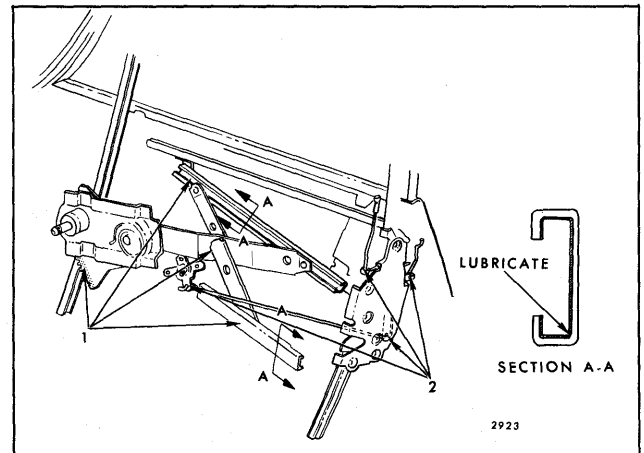

Fig. 2-7—Door Window Regulator and Cams on Styles with Door Upper Frames
1. Applying a thin coat of white lithium soap grease (Lubriplate 630 AAW or equivalent), cover the entire length of the lower sash channel cam and inner panel cam as shown in section "A-A", Figure 2-7.
2. Lubricate all connecting rod pivot points with 630 AAW Lubriplate or equivalent at the points indicated in Figure 2-7.
3. Apply a thin coat of 630 AAW Lubriplate or equivalent to the teeth of the sector gear and the pivot point of the balance arm and lift arm as indicated at points 1 in Figure 2-7.